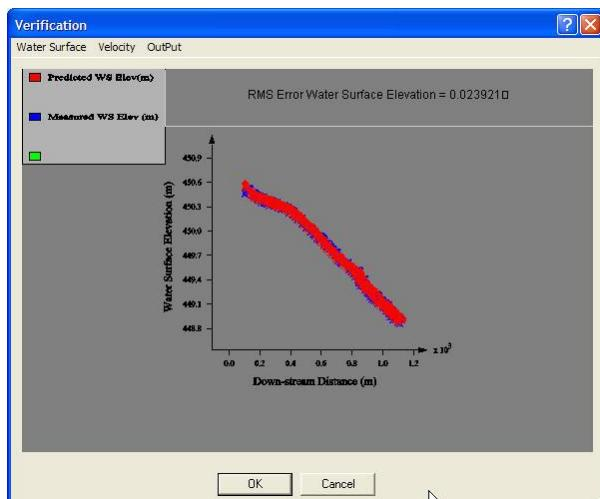

Figure 3.2.2j. Measured and predicted water-surface elevations as a function of distance along the grid centerline.
- The results of the water-surface elevation verification are shown in figures 3.2.2j and 3.2.2k. Overall, the fit is much better than the previous simulation (fig. 3.2.2d) when using a constant drag coefficient especially in the upper section of the reach. The overall RMS error in the prediction is 0.02 when using the variable roughness and 0.4 when using the constant roughness.